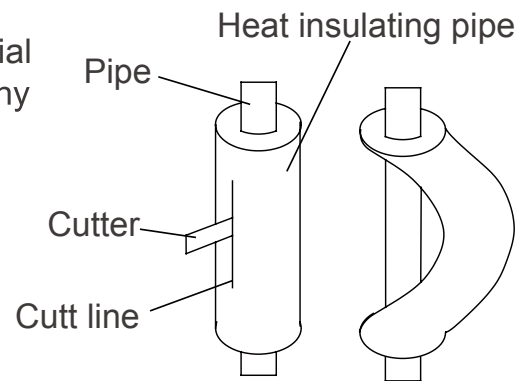

Fig.11
4. When bending the pipe, do not bend it as is. The pipe will be collapsed. In this case, cut the heat insulating pipe with a sharp cutter as shown in Fig.11, and bend it after exposing the pipe. After bending the pipe as you want, be sure to put the heat insulating pipe back on the pipe, and secure it with tape.